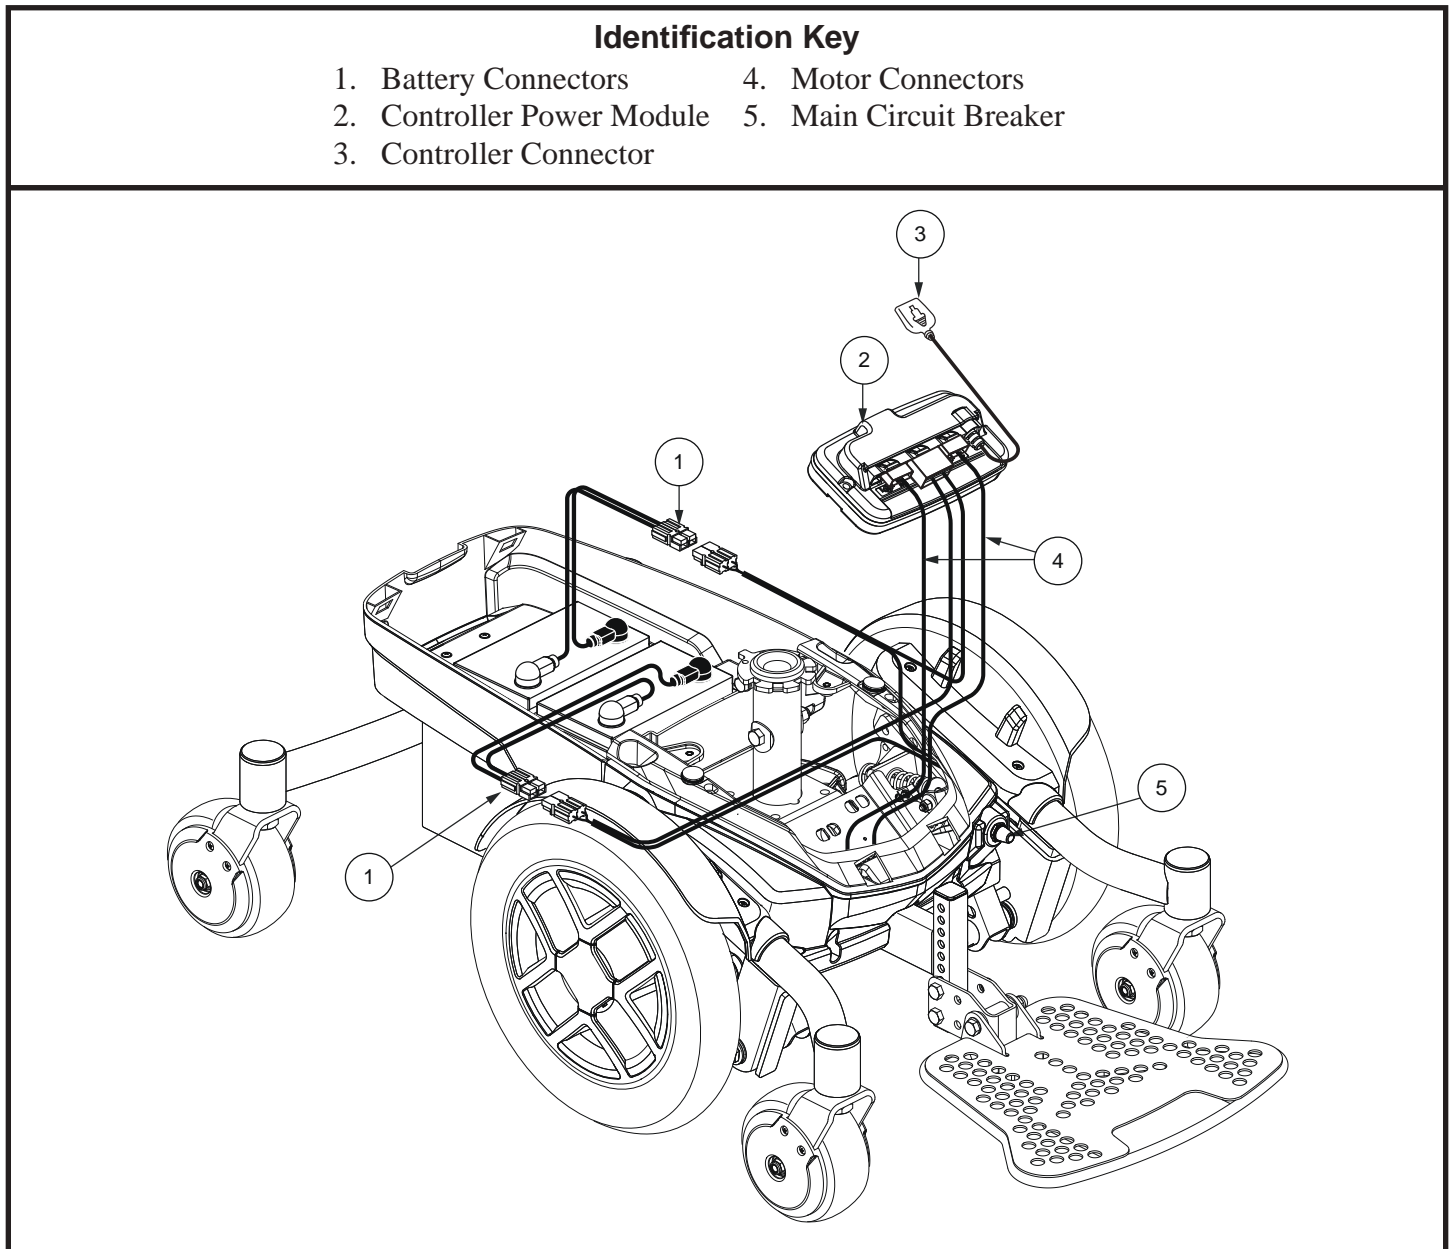

Figure 4. Jazzy EVO 613 with SLA Batteries Electrical Components
The electrical components are located either on or inside the power base. The main circuit breaker is located on the front of the power base. The power module is located under the front cover. See figures 4 and 5.
4. Plug the controller harness into the connector on the power base. See figure 4 or 5.